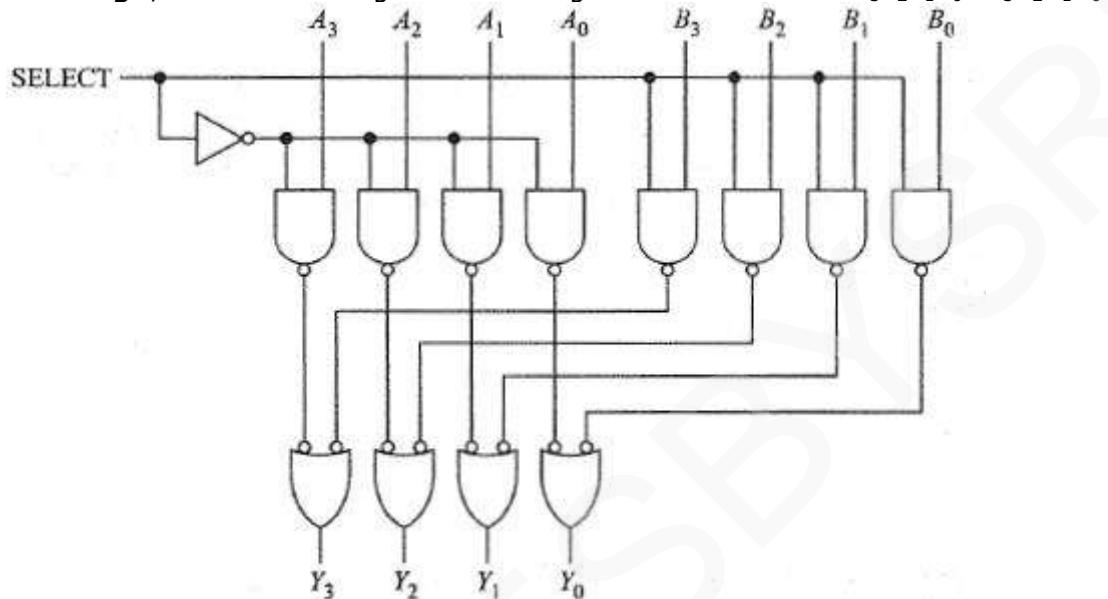

Figure: 4.6: Nibble Multiplexers
- SELECT determines which input nibble is transmitted to output (Fig: 4.6).